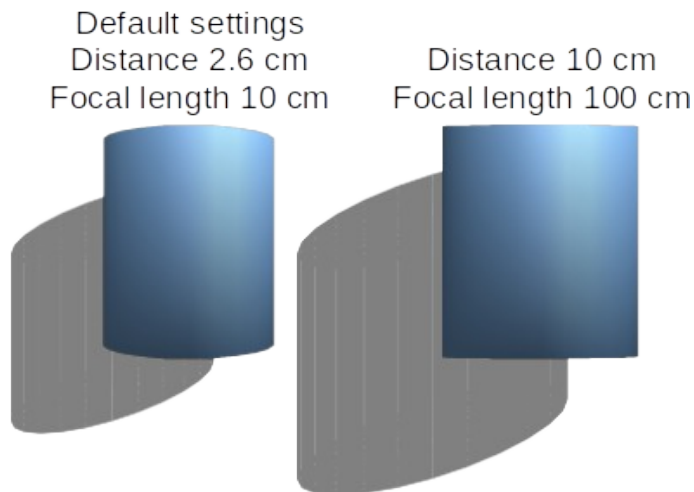

Figure 23: Example of changing camera settings
- **Camera** – sets the camera options for a selected 3D scene as if a camera is being used to take a photograph (Figure 23). The settings affect only central perspective and not parallel projection.